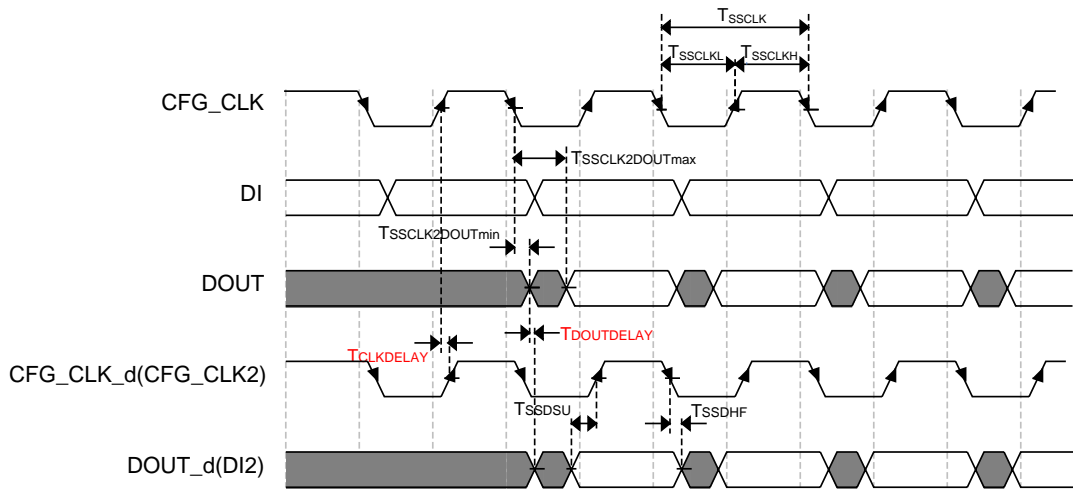

Figure 2-17 Timing Adjustment Example–Subsequent Stage
4. Adjust the Host output to meet the primary stage timing. The subsequent stage inputs all come from the previous stage, with adjustments mainly involving delays introduced by PCB traces, etc. As shown in Figure 2-17, it is necessary to adjust delay parameters $T_{CLKDELAY}$ and $T_{DOUTDELAY}$ to meet the setup and holding time requirements of the subsequent stage devices for both edges.